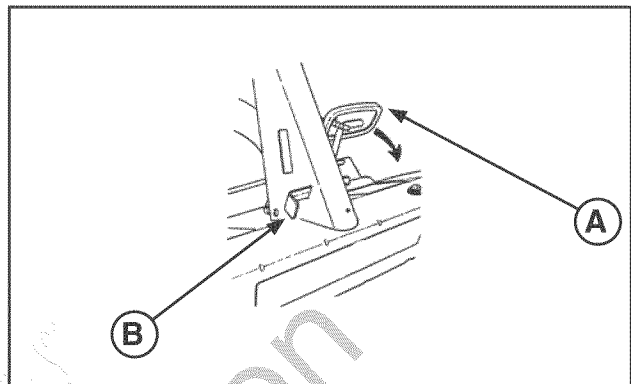

FIGURE 13
1. To set the parking brake, press the clutch/brake pedal (A, Figure 13) all the way down, slide the parking brake latch (B) all the way in, and release the clutch/brake pedal. A detent in the parking brake latch will keep the parking brake engaged.